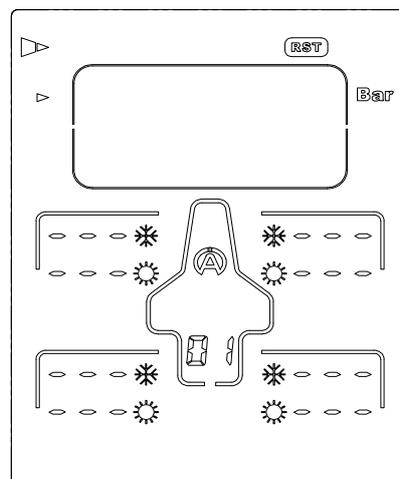

Figure 11
- 2) Press the central button  during 1 second, to erase all data (figure 11)